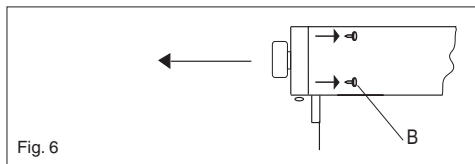

Fig. 6
- To disassemble the control panel, unscrew the 4 internal screws (B) fixing the control panel to the oven face (fig 6).